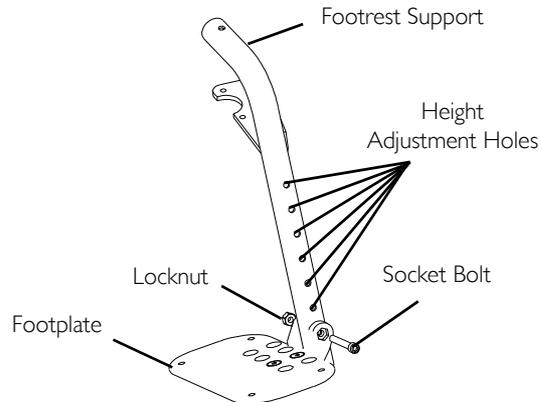

FIGURE 2 Adjusting Footrest Height - 70° MFX, 90°, 70° LIFT and 90° LIFT Footrests.
2. Position the hardware on the footrest support as shown in FIGURE 2.